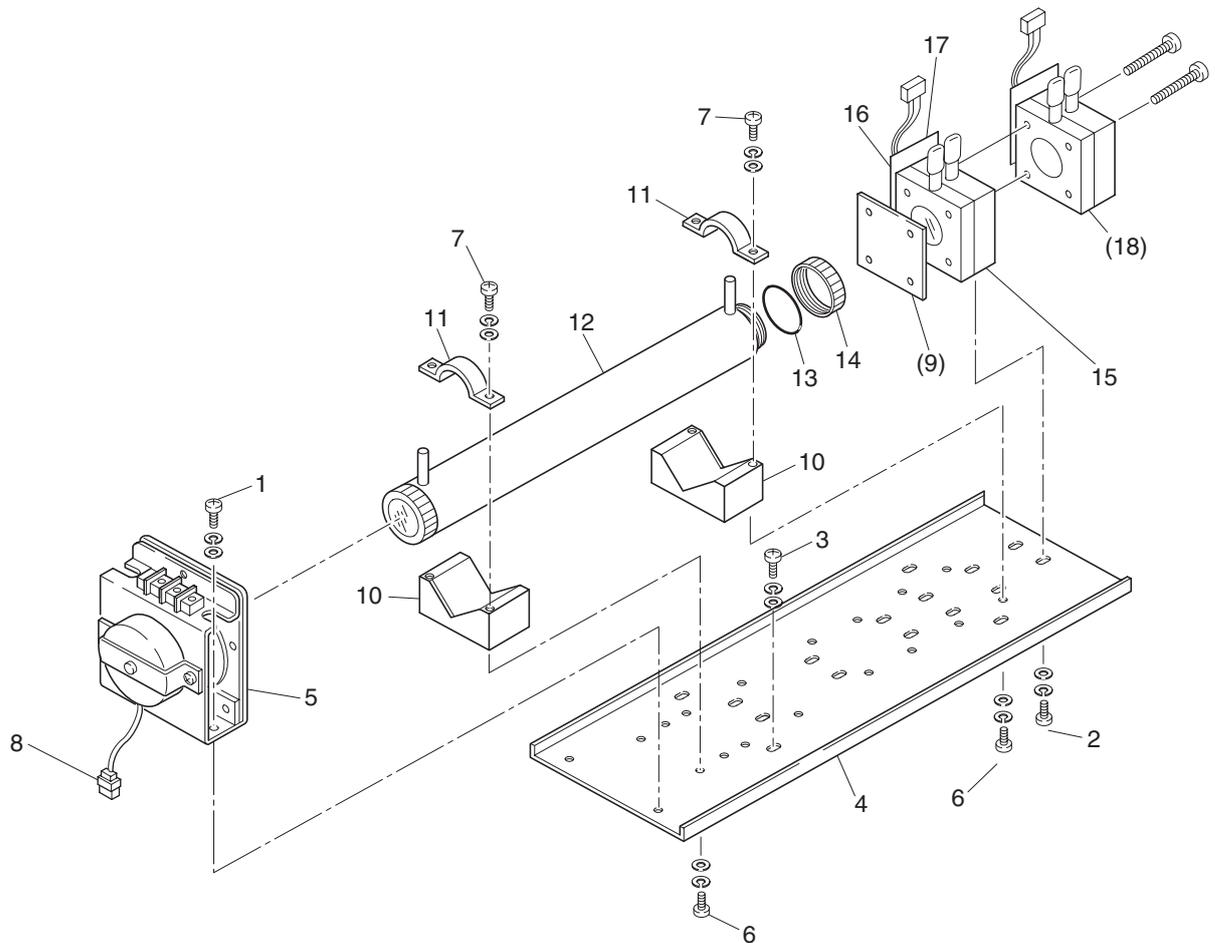

Fig. 7-1 Configuration of measuring unit (pipe cell)
2-component analyzer may incorporate both sampling cells in optical unit. In such a case, detach the pipe cell and then block cell (See Fig. 7-1).
(1) How to remove pipe cell (See Fig. 7-1)